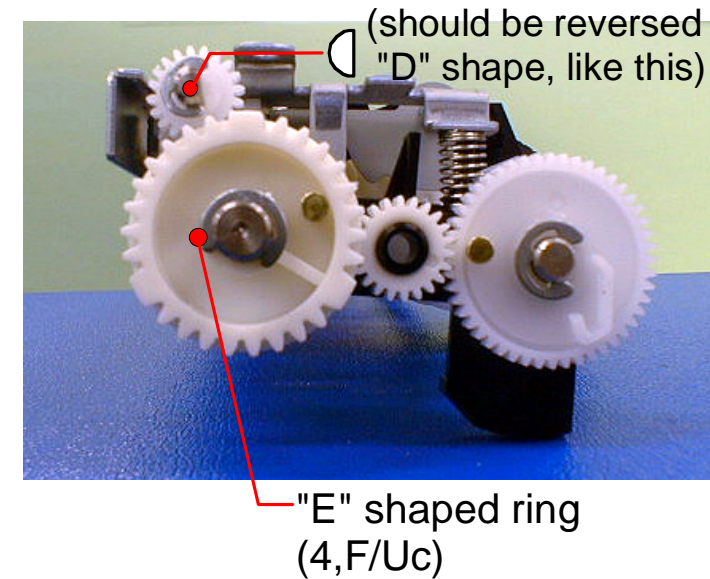

Figure 4-176. Fixing "Combination Gear,24,24"
45. Make sure again that the shape of axis, which "Gear,10" is inserted, is reversed "D" shape, as it is shown in figure4-176, while needles for alignment are still inserted in the "Combination Gear,24 24" and "Gear,24".